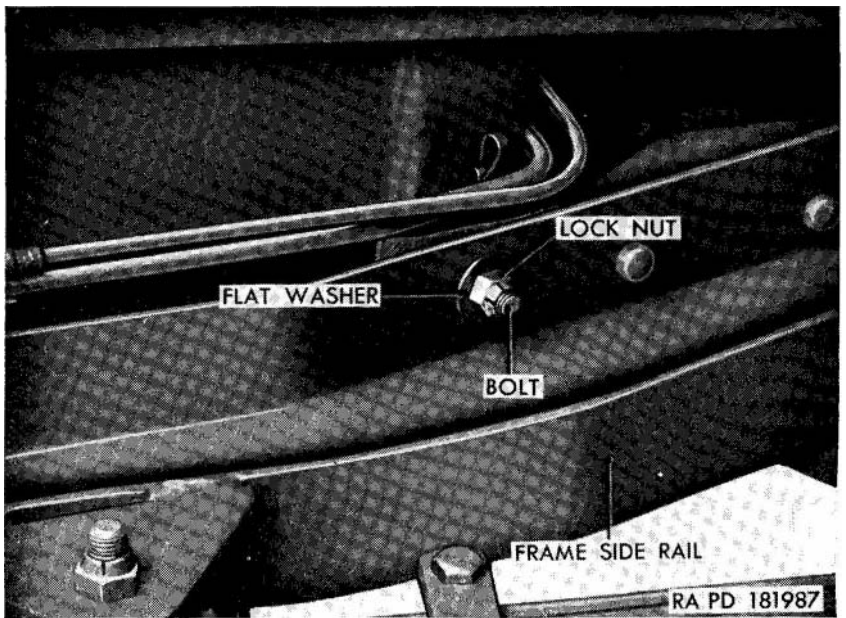

Figure 26.3. (Added) Body hold-down bolts M170—from side rail.
(b) Remove three locknuts and fiat washers from the bolts (fig. 26.3) securing the body to the frame side rail and remove the bolts with flat washers.
- (b) Remove four locknuts and flat washers (fig. 26.3) from the bolts securing the body to the frame side rail and remove the bolts with flat washers.